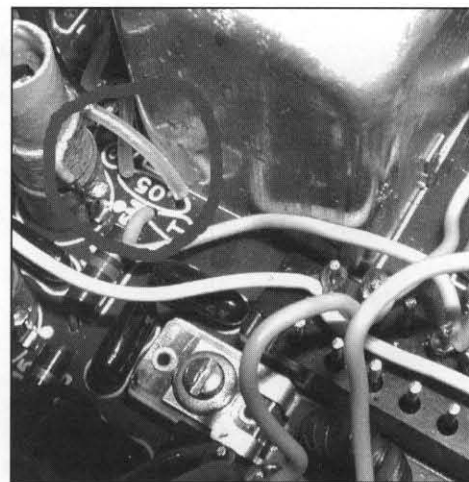

Figure 3—Locating C75 inside the HW8.
1. Remove C75 (.05 uF), which is located between the emitter of Q6 and the base of Q8. It is also physically located between the group of 4 uncanned tuning coils and the large canned tuning coil (see Figure 3).